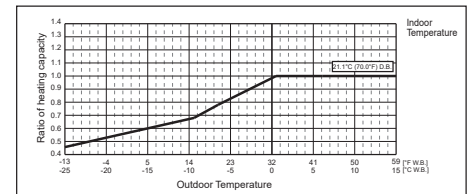

Figure 5 Outdoor unit temperature correction To be used to correct outdoor unit only
(5) Outdoor Unit Correction Calculation
- Outdoor Design Wet Bulb Temperature Correction (35.6°F) 1.0 (Refer to Figure 5)